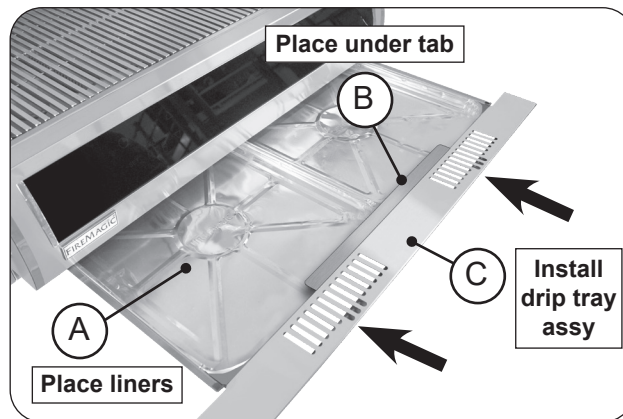

Fig. 36-1 Install drip tray
- Place the liners (Fig. 36-1, A) underneath the tab at the front portion of the drip tray (Fig. 36-1, B)
2. Fully insert the drip tray with liners into the bottom front opening of the electric grill (Fig. 36-1, C).